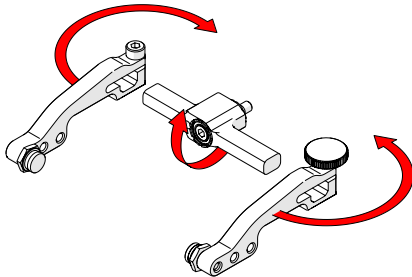

Fig. 169 - Flip yoke and reverse arms
3. Flip the yoke 180° and reverse the probe holder arms (Fig. 169).